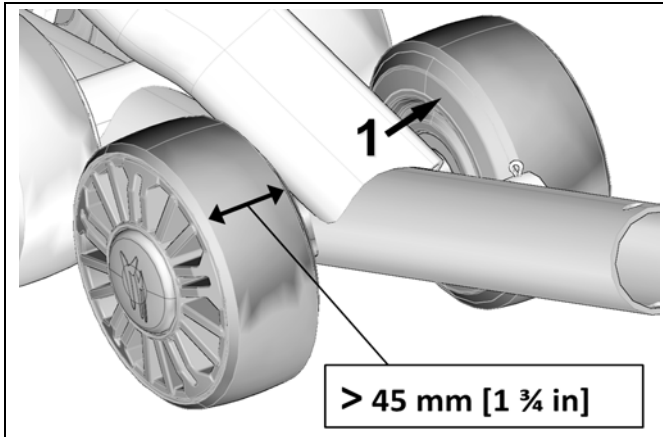

Figure 46
Verify wear on wheels especially on the interior guidance strip (Figure 46). The wheel must be replaced if the inner surface (1) is perforated or when the wheel's rolling band narrows to less than 45 mm wide. A wheel that is excessively worn will not offer enough support to guide the track.